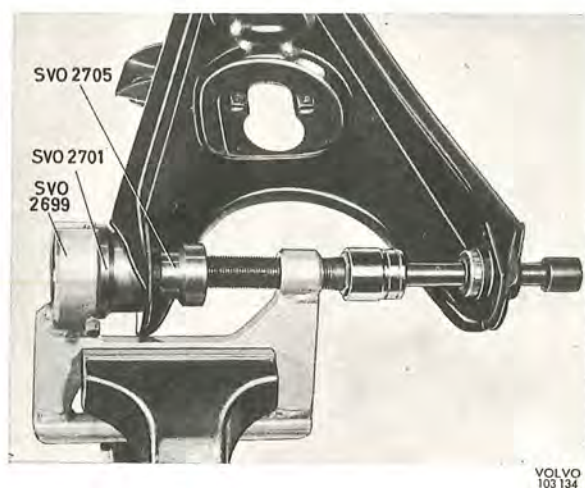

Fig. 6-27. Removing the rubber bush, lower wishbone
1. Secure press tool SVO 2699 in the vice. Remove the rubber ring (2, Fig. 6-14), as well as the spacer ring (3). Press the bushes out with drift SVO 2705 and counterhold SVO 2701. The tools should be placed as shown in Fig. 6-27. The bushes are pressed out in the direction of their flanges, that is, rearwards in the vehicle, see Fig. 6-14.